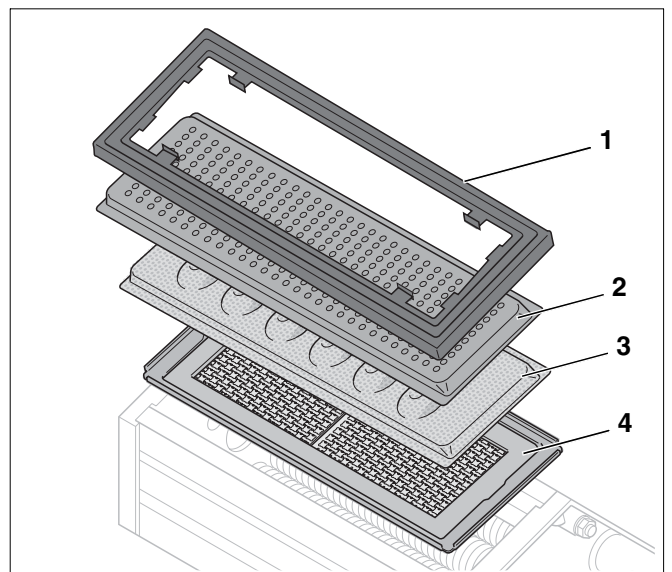

Fig. 120 Removing the burner
- Remove the burner gasket (see fig. 120, pos. 1).
- Remove the gas/air distributor plate (see fig. 120, pos. 2).
- Remove the orifice plate (only applies to GB142-24/30) (see fig. 120, pos. 3).
- Remove the burner (see fig. 120, pos. 4).